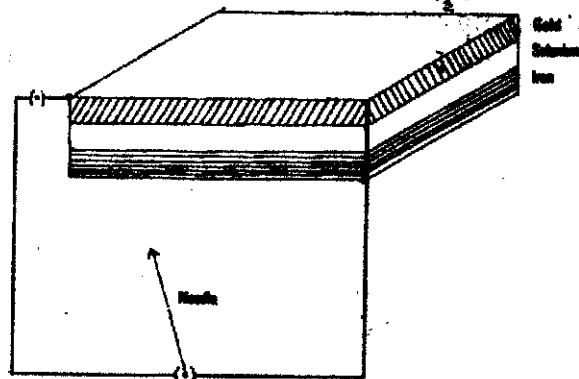

Fig 37.5 : Photo Electric Exposure Meter
An exposure meter consists of sensitive current measuring meter, (Fig 37.5) connected to a selenium cell. Thus, the deflection of the meter needle indicates the intensity of the light incident on the selenium cell. The scale of the meter indicates the exposure value (EV) numbers for given speed of the film,